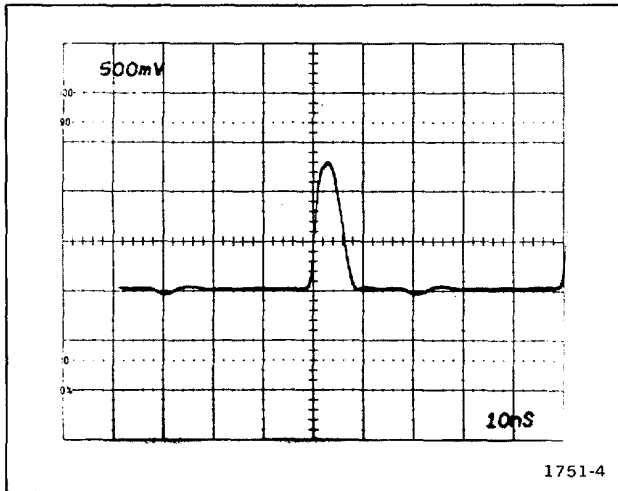

Fig. 5-4. Fast delay time accuracy.
- e. Align the leading edge of the time-mark to the center vertical graticule line, using the POSITION control. See Fig 5-4 for reference.